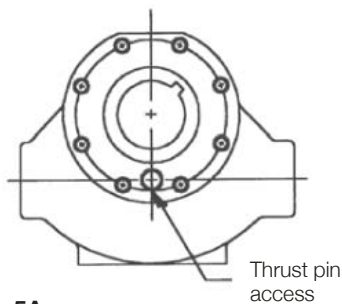
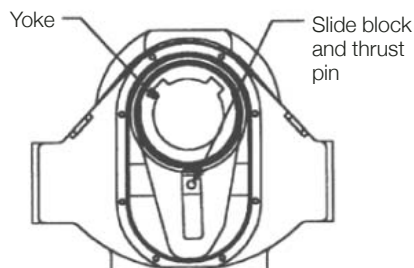

Figure 5A
Figure 7A
- Remove the thrust pin access plug (12). (Figure 5A)
- Push the yoke (2) using the piston rod (4) until the thrust pin (9) is centered over the thrust pin access hole (See Figure 5A). Remove the upper thrust pin retaining ring (11) from the thrust pin (9) (Figure 7A).
- Push the thrust pin (9) and lower retaining ring (11) out through the thrust pin access hole allowing the slide blocks (10) to fall free. Remove the slide blocks (10).
- Remove the piston rod (4), piston rod bushings (7), yoke (2). Remove yoke bearings (5), and yoke seals (48) from the housing (1) and cover (18). Remove the upper and lower vent valves (22) from the back of the housing.